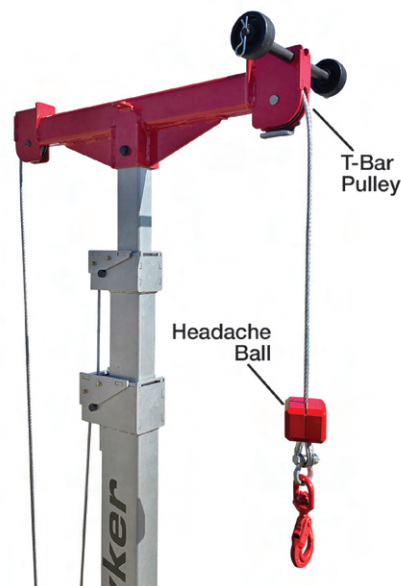

Figure 7-21: Keeping Space Between Headache Ball from T-bar Pulley
2. Elevate the mast T-bar above the object to be lifted or lowered. Make sure you let out enough load cable while raising the mast so the headache ball does not jam into the mast T-bar pulley (see Figure 7-21). Provide enough clearance from the object to be lifted or lowered so there is no contact with the mast T-bar.